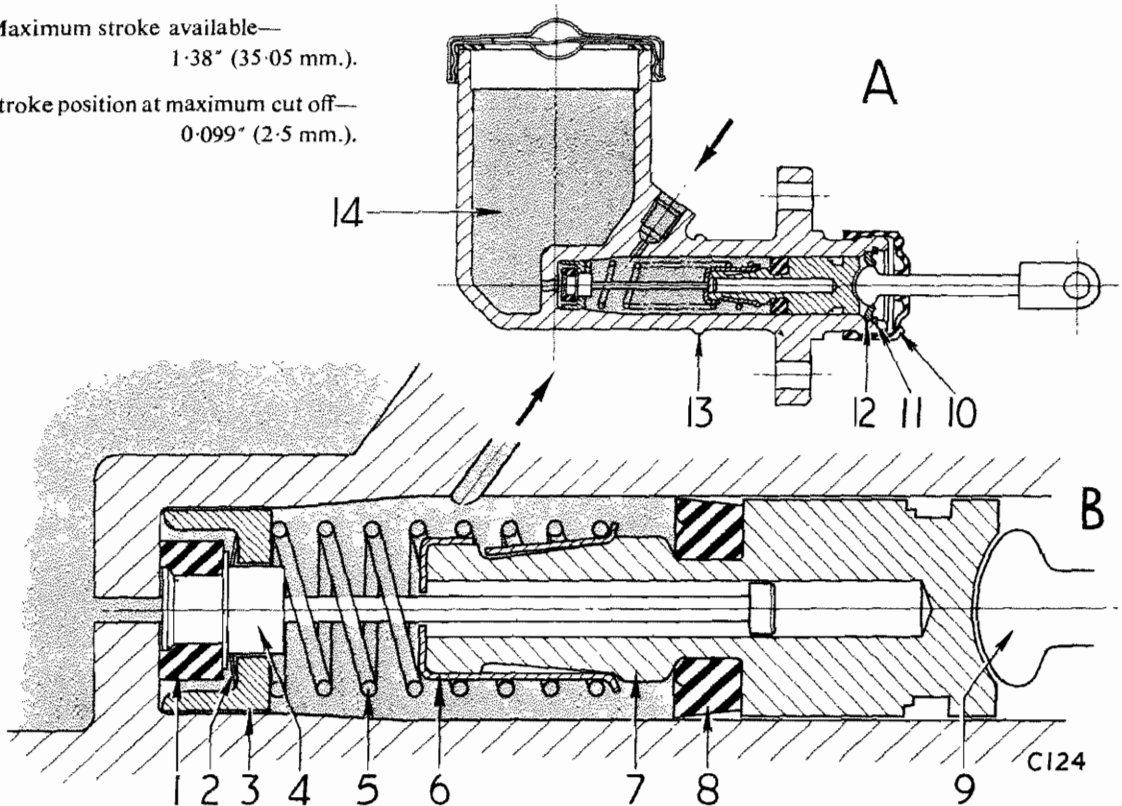

Fig. 4. Section through clutch master cylinder
Clutch Master Cylinder (Figs. 4 and 5)
1. Refit the seals (1) and (8) to items (4) and (7) as shown on Fig. 4.
2. Fit the spring (2), distance piece (3) and spring (5) to the valve shank (4), attach the spring retainer (6) and fit the assembly to the plunger (7). Lubricate the components with clean hydraulic fluid and fit them to the master cylinder bore. Fit the push rod (9) with stop plate (12), circlip (11) and dust cover (10).